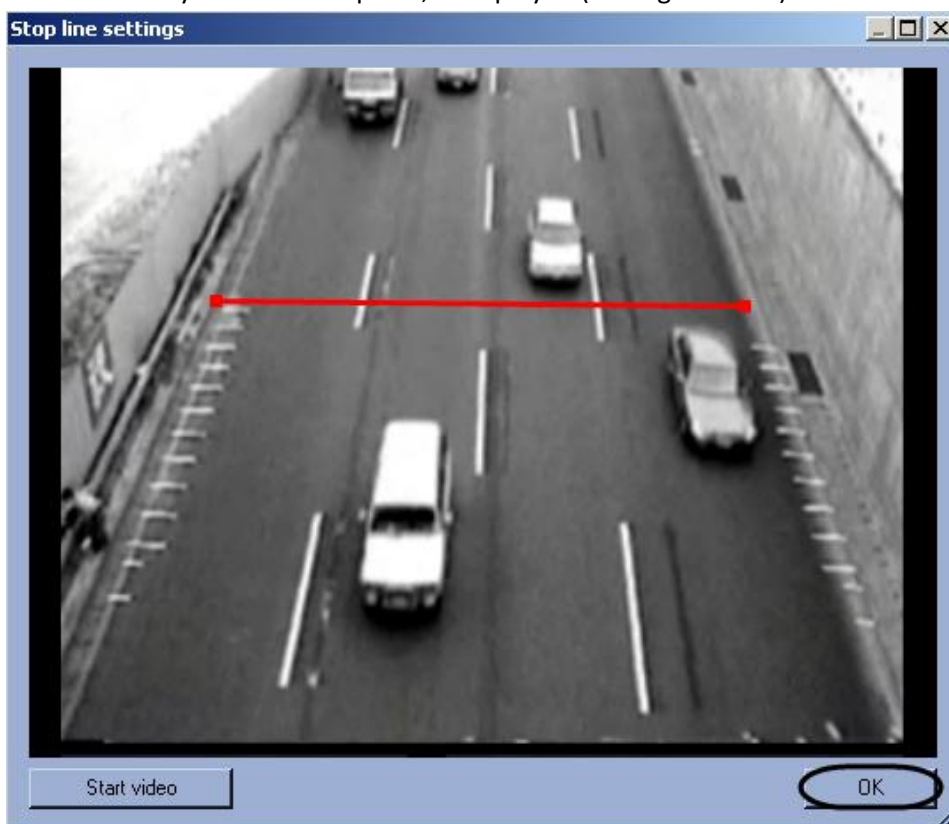

Fig. 7.2—33 Stop line setting
- 4.3. Set the stop line. To set the stop line, click the road edge in the image, press the left mouse button, drag the cursor to another edge of the road in the video frame (see Fig. 7.2—33).